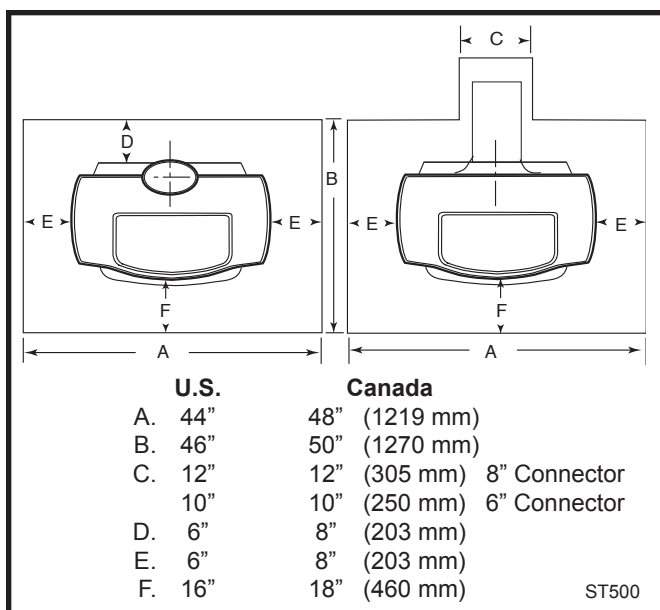

Fig. 12 Required floor protection dimensions.
**In U. S. installations** the floor protector is required under the stove and must extend at least 16" (not including the ash lip) from the front of the stove ("F", Fig. 12), and at least 6" from the sides and rear. ("D" and "E", Fig. 12)
In rear venting configurations, floor protection must also extend under the chimney connector and 2" to either side. ("C", Fig. 12) For the 8" (203 mm) connector, the protector must be a minimum of 12" (305 mm) wide. For the 6" (152 mm) connector, the protector must be 10" (254 mm) wide. The protector must be centered under the connector.
**In Canada:** A noncombustible floor protector is required under the stove as well. The floor protector must extend 18" (457 mm) to the front ("F", Fig. 12), and 8" (203 mm) from the sides and rear. ("D" and "E", Fig. 12)